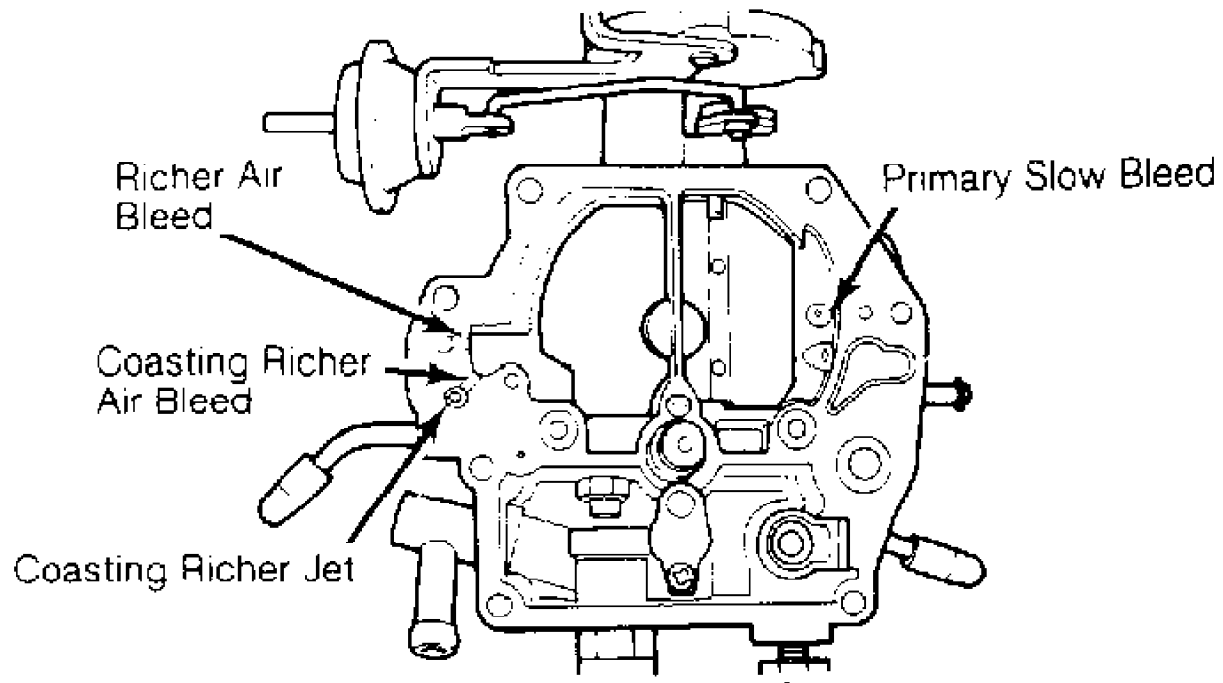

Fig. 14: Locating Air Bleeds & Jets (Air Horn)
2) Remove richer air bleed, primary slow bleed, coasting richer air bleed and coasting richer jet from air horn. See Figs. 14 and 17.